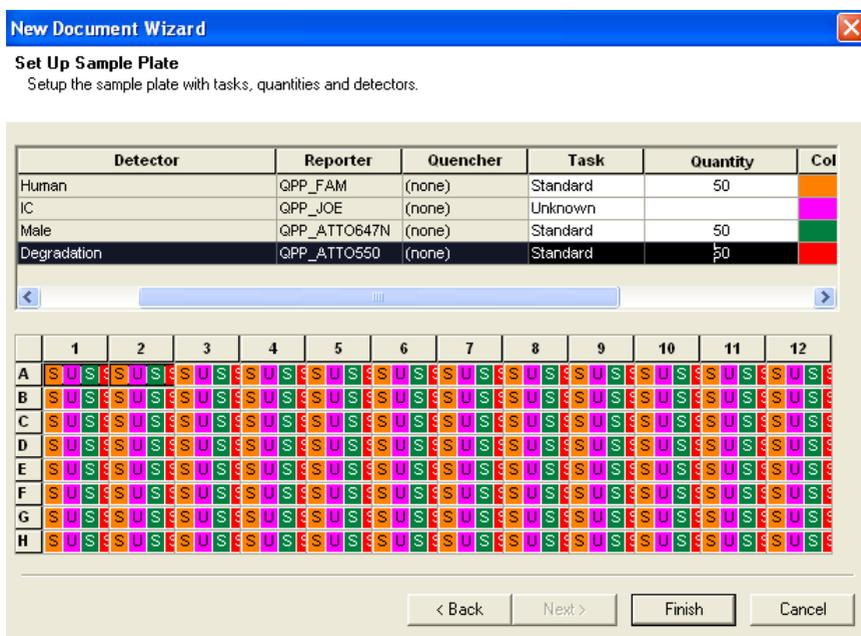

Figure 36. Setting up the sample plate.
- Click **Unknown** in the Task column and then select **Standard** from the dropdown menu (Figure 36). Select **Quantity** for the appropriate detector and enter the quantity of DNA in the well according to Table 11, page 56.